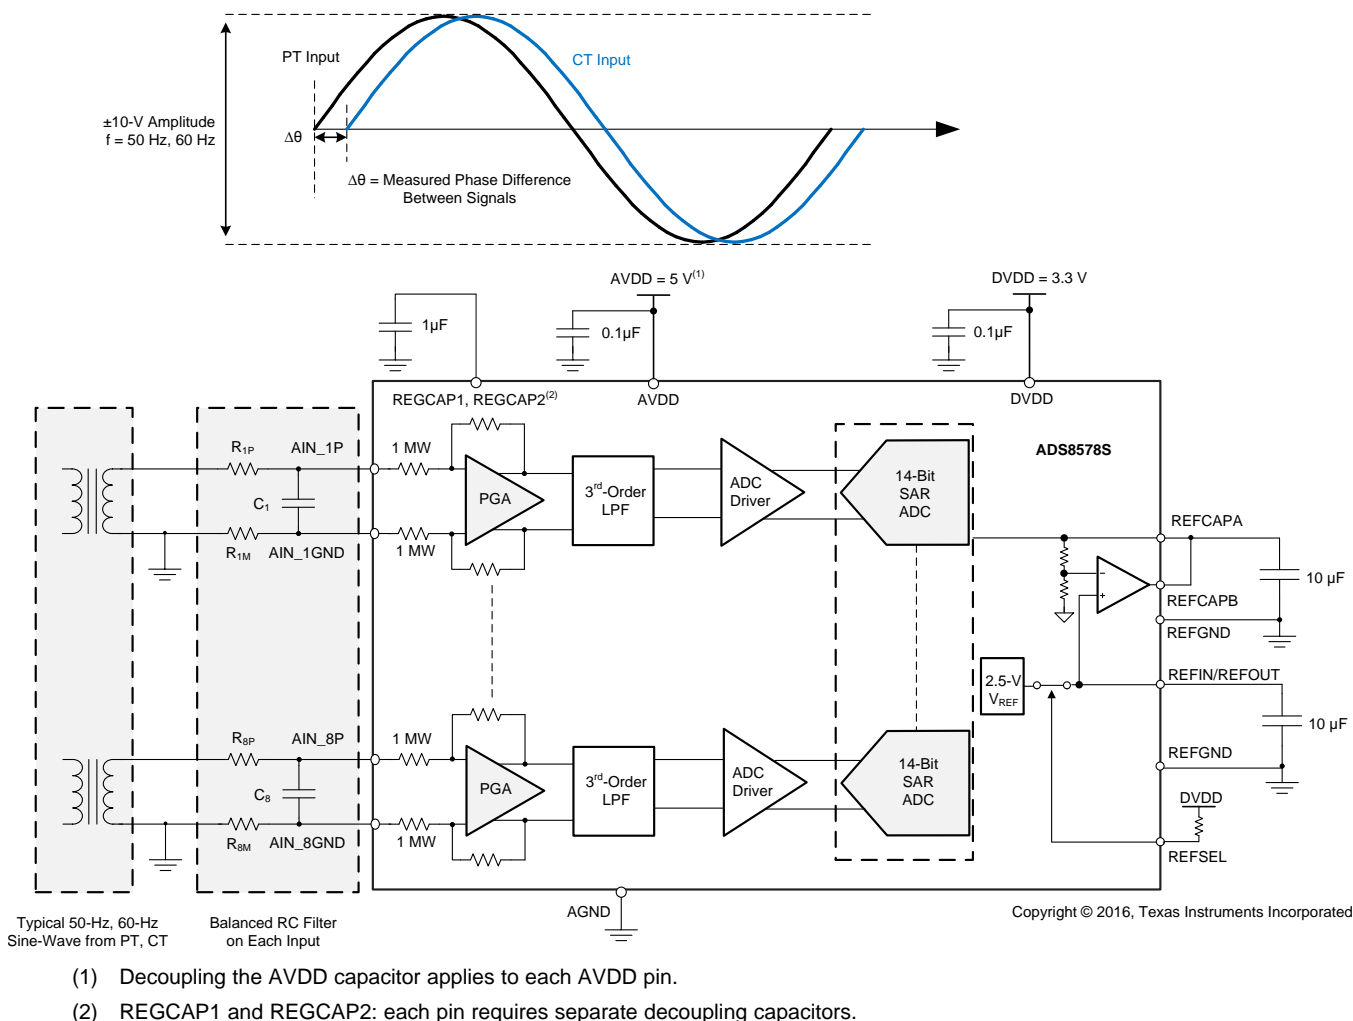

Figure 84. 8-Channel DAQ for Power Automation Using the ADS8578S
- Output range of the potential transformers (elements labeled PT in Figure 84)
- Output range of the current transformers (elements labeled CT in Figure 84)
The PT and CT used in the system (see Figure 84) have a ±10-V output range. Although the PT and CT provide isolation from the power system, a series resistor must be placed on the analog input channels. The series resistor helps limit the input current to ±10 mA if the input voltages exceed ±15 V. For applications that require protection against overvoltage or fast transient events beyond the specified absolute maximum ratings of the device, an external protection clamp circuit using transient voltage suppressors (TVS) and ESD diodes is recommended.
The primary goal of the data acquisition system illustrated in Figure 84 is to measure up to 20 harmonics in a 60-Hz power network. Thus, as shown in Equation 1, the analog front-end must have sufficient bandwidth to detect signals up to 1260 Hz.